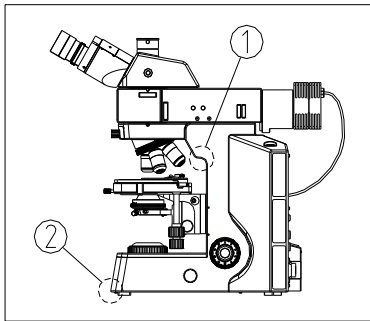

Fig.1
(1) As the microscope is a high precision instrument, always operate it with care, and avoid physical shake during the operation.
(2) Do not expose the microscope in the sun directly, either not in the high temperature, damp, dust or acute shake. Make sure the worktable is flat and horizontal. Following environment is required when operating: Indoor temperature: 5°C ~ 40°C, Max relative humidity: 80%.
(3) When moving the microscope, use one hand to hold its arm① and the other hand to hold its front base②, and lay it down carefully (See Fig. 1).